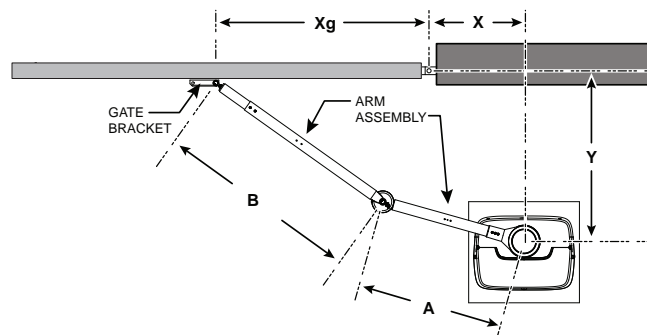

Figure 11. Installation Dimensions
4. Use Tables 1 through 4 to determine the length of the operator arm (A) and the gate arm (B) (Figure 11).
12. Make sure that the operator arm is below the gate arm (Section B above Section A, Figure 11).